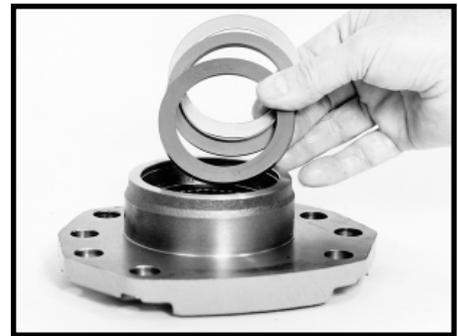

Figure 140
**CAUTION:** Following procedures #34, #35, #36 with a sector shaft that does not pass the “thumb nail test,” and a replacement seal (52) that does not have the Teflon washer (53) integral to it can result in the seal being destroyed when assembling sector shaft into side cover.
- 34. Assemble the steel back up washer (54) into side cover (56). Assemble a new Teflon washer (53) then a new two piece seal (52), or a new two piece seal that has the integral Teflon washer (52/53) into the side cover, such that the words “Oil side” are visible after the seal is assembled. SEE FIGURE 140.